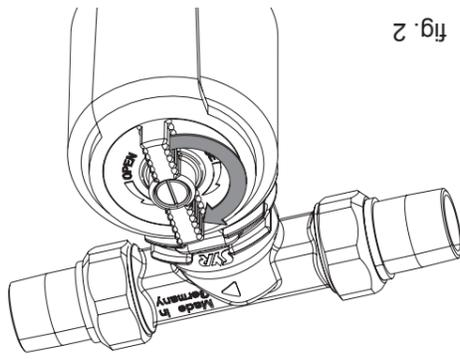

fig. 2
- Turn the shut-off valve clockwise to end the backwash (fig. 2)